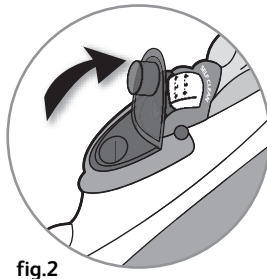
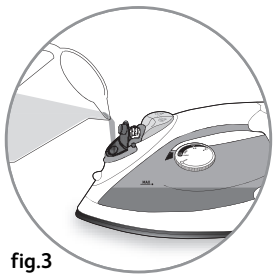

fig.2
fig.3
- Open the reservoir refilling hatch (fig.2), place the iron flat and fill it (fig.3).